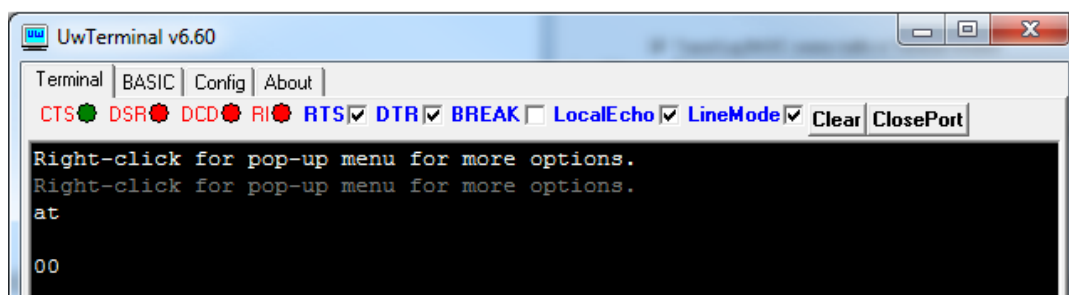

Figure 11: COMMS OK
3. Confirm you can communicate with the development board by typing *at* followed by a return. The module responds with *00* (Figure 11).